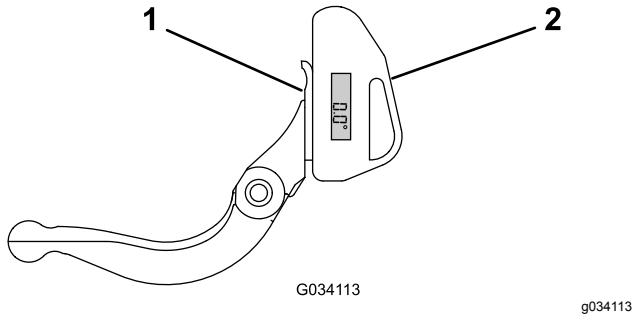

Figure 21
1. Place the angle indicator on the bottom side of the bedknife as shown in Figure 21.